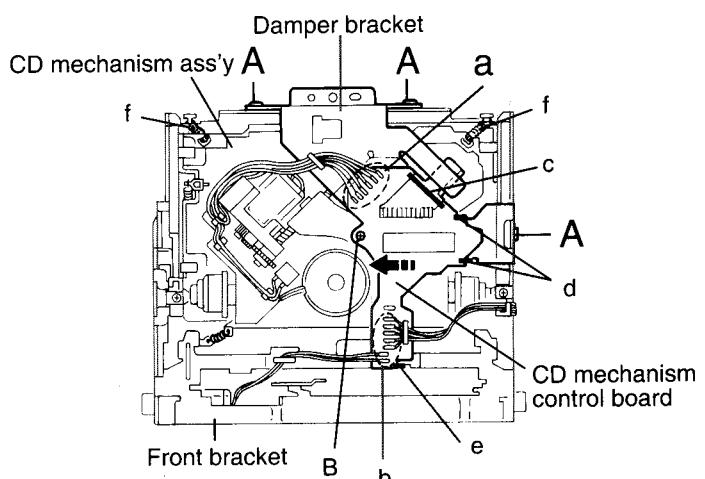

Fig.1
■Removing the CD mechanism control board (See Fig.1 and 2)